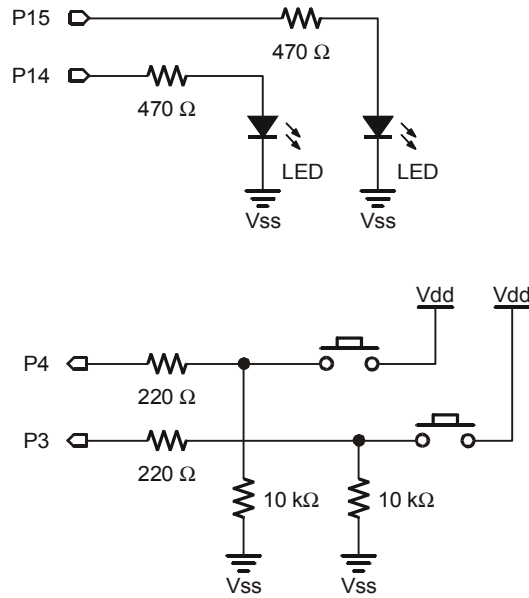
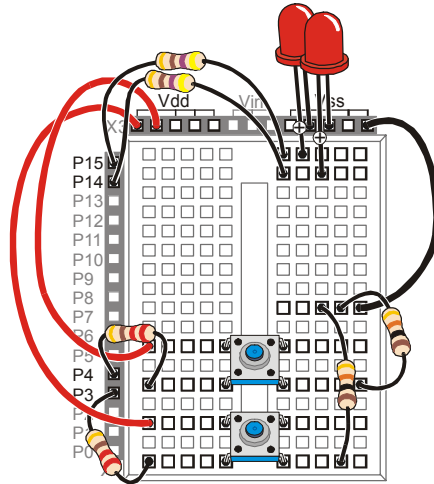

Figure 3-12
Figure 3-13
Figure 3-12 shows a second LED and pushbutton circuit added to the circuit you tested in the previous activity.
- √ Build the circuit shown in Figure 3-12. If you need help building the circuit shown in the schematic, use the wiring diagram in Figure 3-13 as a guide.
Connecting wires with dots: There are three places where wires intersect in Figure 3-12, but only two dots. Wires only connect if there is a dot at the intersection. The wire that connects the P4 pushbutton to the 10 kΩ resistor does not connect to the P3 pushbutton circuit because there is no dot.